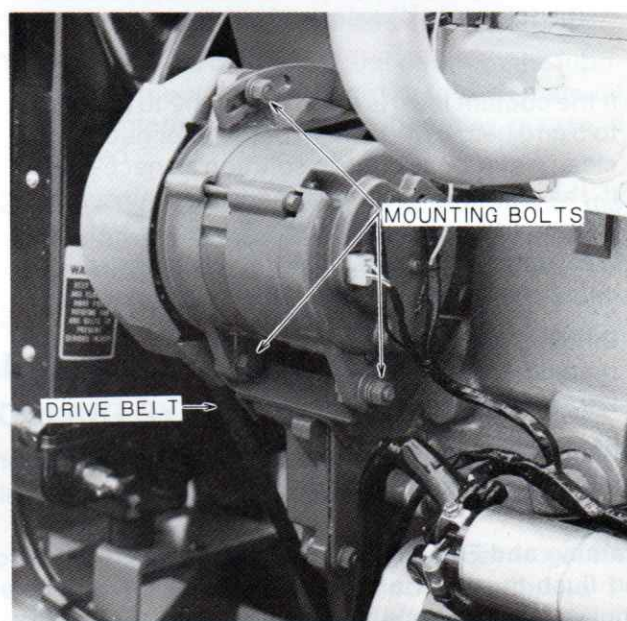

Figure 45 — Alternator Mounting Bolts
1. Loosen the alternator mounting bolts, Figure 45.